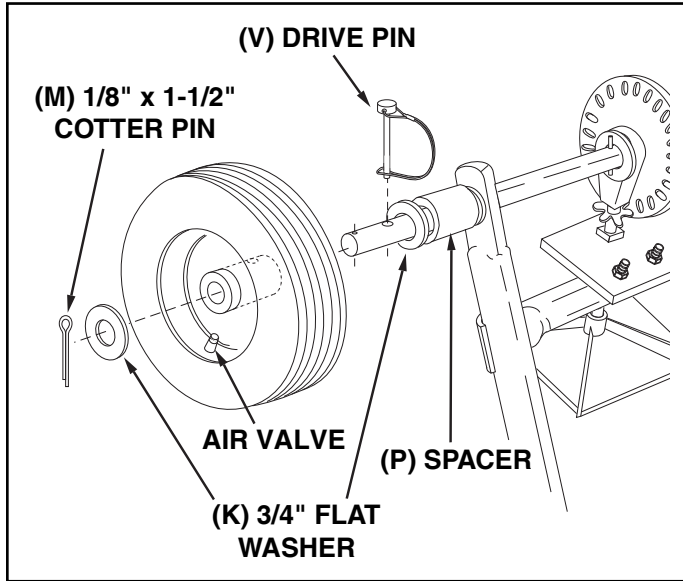

FIGURE 4
8. Assemble a spacer (P), a 3/4" flat washer (K), a wheel (air valve facing out) and another 3/4" flat washer (K) onto the end of the axle that has both the **large and small holes**. See figure 4.
9. Install a 1/8" x 1-1/2" cotter pin (M) into the small hole in the end of the axle. See figure 4.
10. Open the bail on the drive pin (V) and install it through the wheel and the large hole in the axle. Close the bail to lock the pin in place. See figure 4.
(Refer to figure 4 on page 6.)